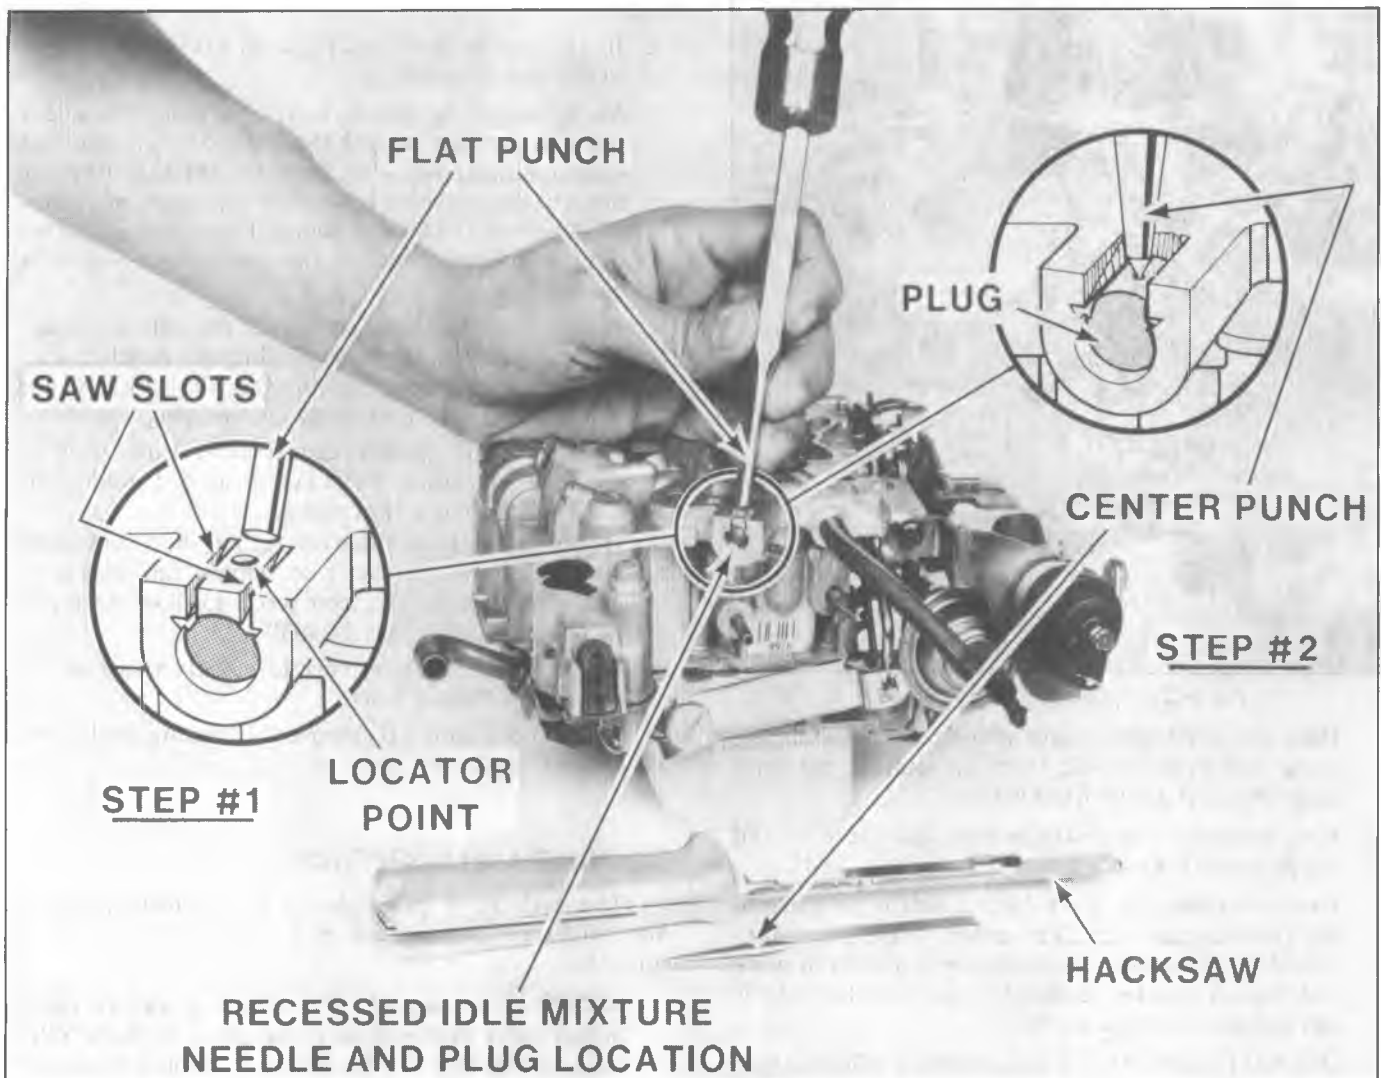

Fig. 6C2-15--Idle Mixture Needle
2. Inspect float valve pull clip for proper installation (Fig. 6C2-16). Be careful not to bend pull clip.